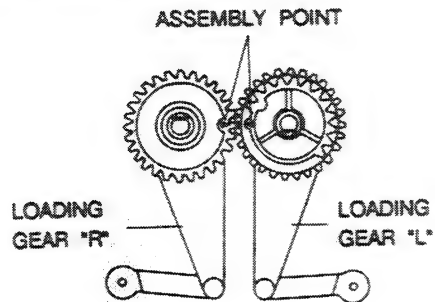

Fig. 51 Loading Gear L/R Assembly Point
1. Reinstall the loading gear L/R assemblies in the eject mode while align the timing marks (Fig. 51).